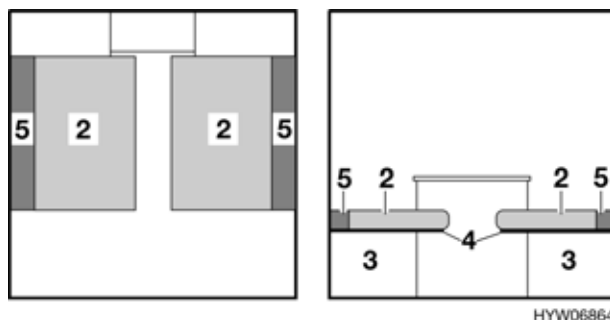

Fig. 94 After conversion into single beds
- For widening of bed pull out slatted frame (Fig. 94,4) at the left and right bedding box.
- Insert the additional cushion (Fig. 94,5) between the seat cushion (Fig. 94,2) and the exterior wall.